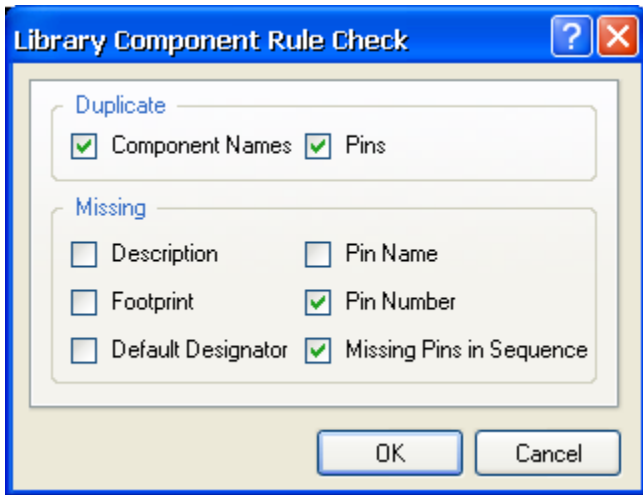

Figure 27. Configure the Component Rule Check dialog to test the current component.
1. Select **Reports » Component Rule Check** [shortcut: **R , R**]. The *Library Component Rule Check* dialog displays (Figure 27).